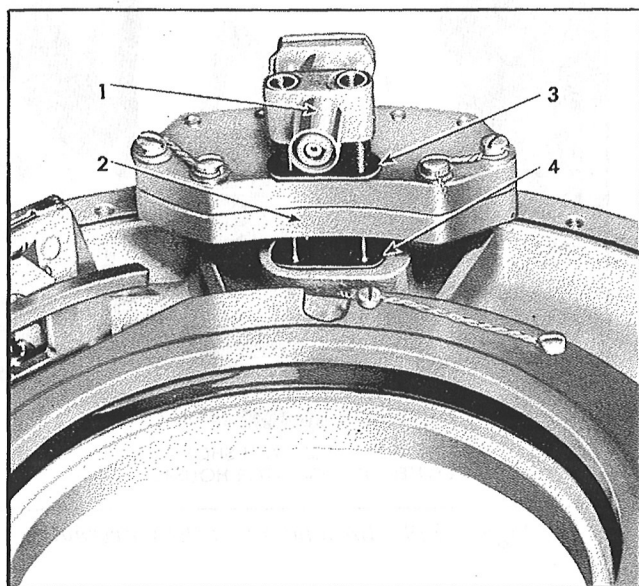

Figure 151—Installation of Pressure Control Valve and Filter
*Step 9.*—Mount the pressure control valve filter gasket over the studs in the regulator housing pressure control valve pad. See Figure 151.
*Step 10.*—Mount the pressure control valve filter assembly over the studs, as shown in Figure 151.
*Step 11.*—Install the pressure control valve gasket on the studs and over the pressure control valve filter. See Figure 151.
*Step 12.*—Mount the pressure control valve on the studs, entering the filter dowel into the pressure control valve body. See Figure 151.